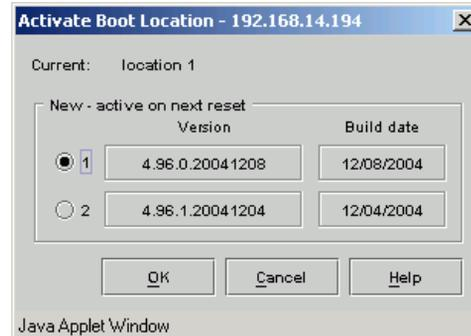

Figure 7-2 Activate Boot Location Dialog Box
2. Click the *Activate* button to display the *Activate Boot Location* dialog box (Figure 7-2 on page 7-3).